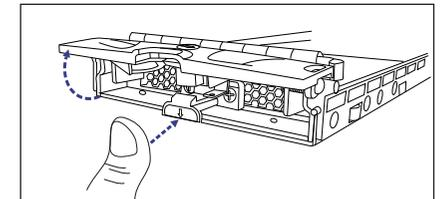

Figure 3: Opening Drive Tray Front Flap
- Step 2.** Open the front flap on the drive tray by pushing the release button on the front of the drive tray. The front flap will be opened in an upward direction. (See **Figure 3**)